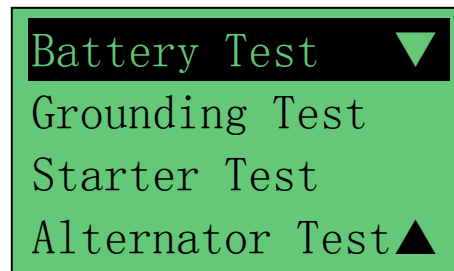

Figure 30
3. After you have made your choice, selecting "New: Clear Memory" or "Continue...Test" will proceed to the display below: (Fig. 30)
13. To exit the program, pressing the  key at any moment will exit and return back to the main menu screen (Fig.30).